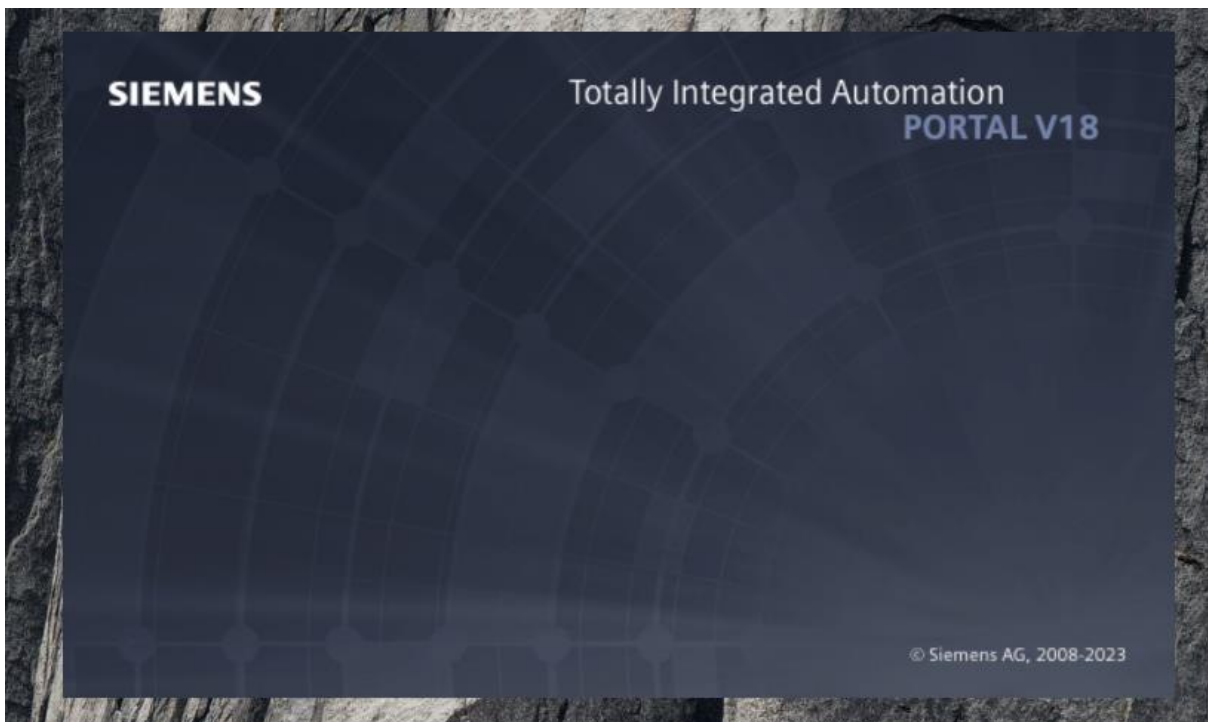

Fig:2
1. Create a project in Siemens TIA – V18 (fig2) project.
2. Start a project(fig2) use the TIA – V18 portal for uploading your project onto the PLC.